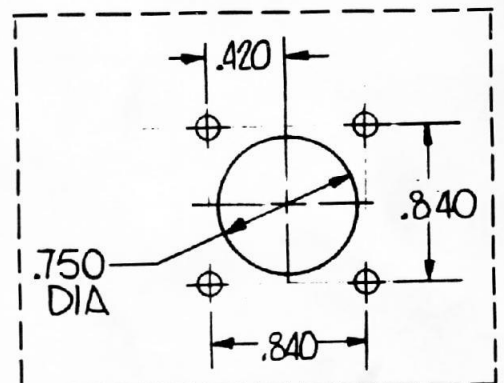

FIGURE 51. RPC TEMPLATE
1. Using the template provided in Figure 51, drill 5 holes. Insert the cable through the holes and secure the connector (Figure 39, page 33), using wood screws or stainless steel bolts (not provided.)